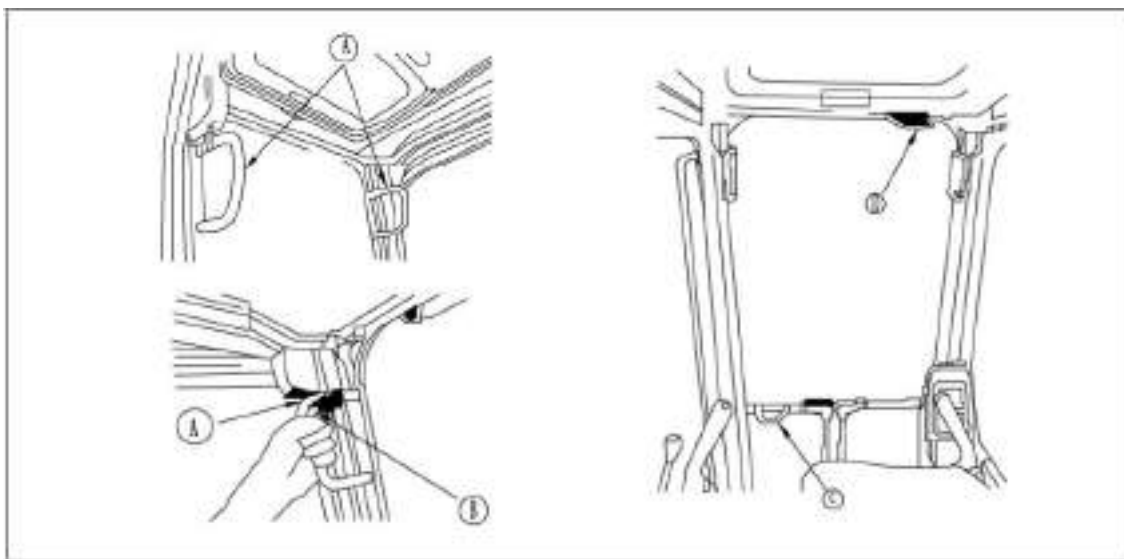

Figure 3-93 Steps for opening the front window (I)
d). Hold the handles (A) of the front window and pull the handle lock knob (B) to open the lock of the top of the front window, as shown in Figure 3-93. The top of the front window will then be pulled out.